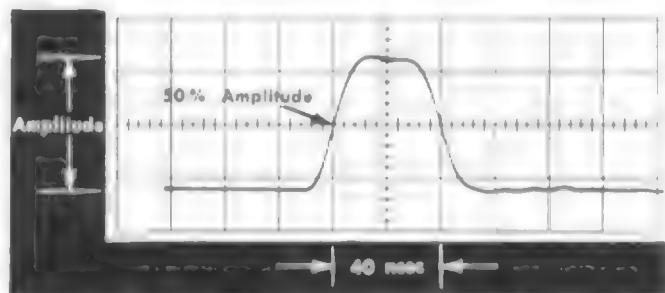

Fig. 6-8 Checking pulse duration and amplitude. Sweep rate is 20 nsec/cm.
- g. Check that the waveform has a pulse duration of about 40 nsec at the 50%-amplitude level (see Fig. 6-8).